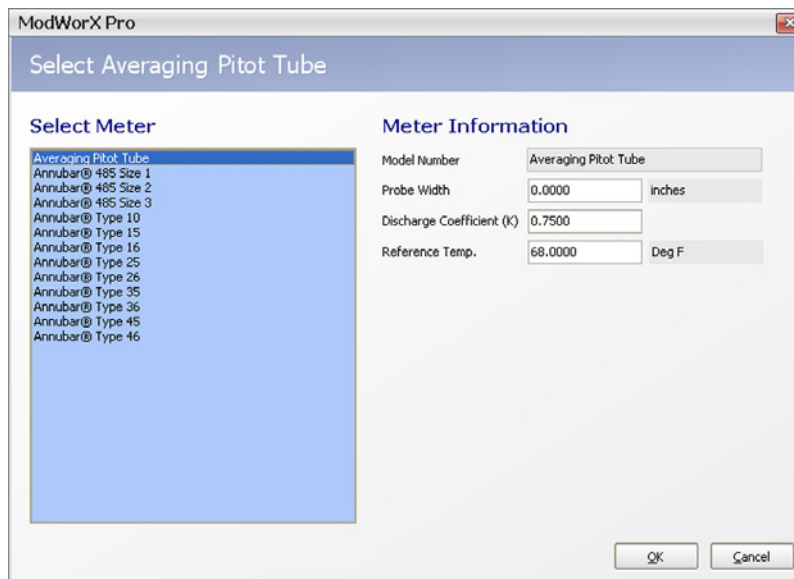

Figure 11.6
3. Click **Select Meter** to display a list of meter selections. The Select Averaging Pitot Tube screen will appear (Figure 11.6).